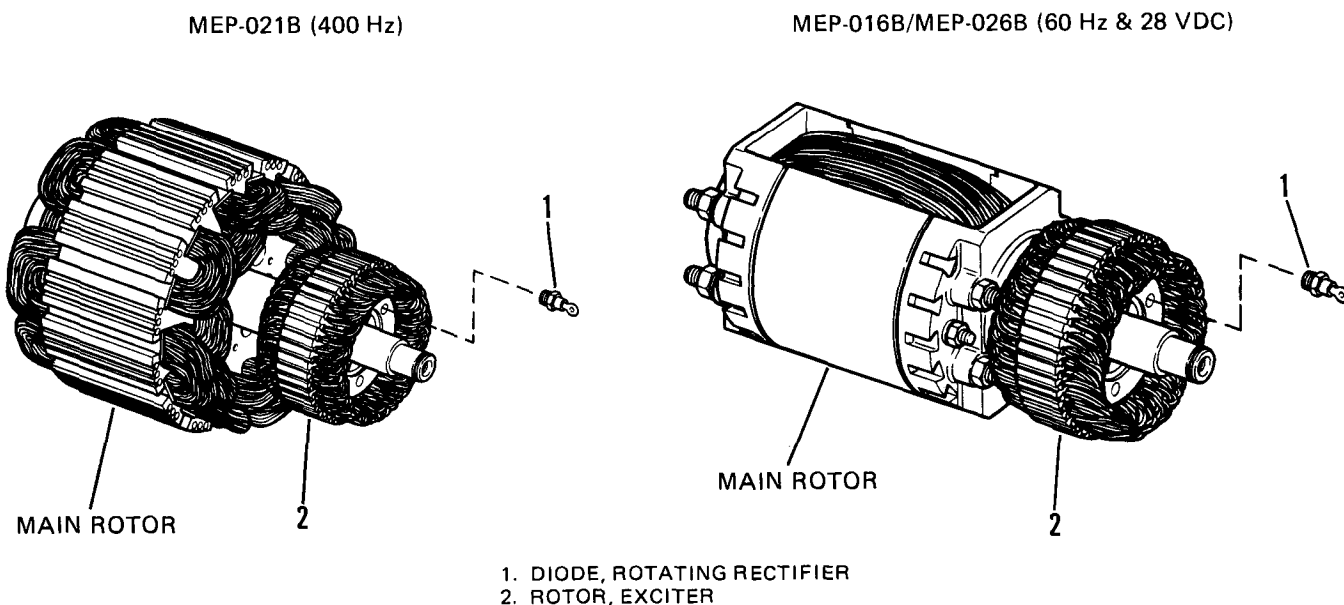

Figure 5-9. Rotating Rectifiers.
- (1) Remove diodes (1, Figure 5-9) from exciter rotor, refer to b, Removal.